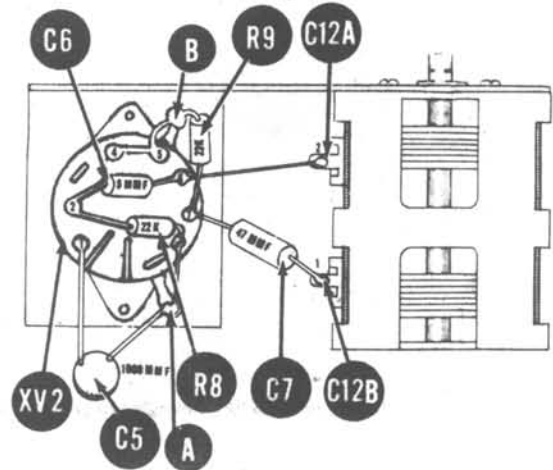

Fig. 4
- ( ) Fig. 4. Connect a 22K $\Omega$  resistor, R8 from XV2-2 (C) to XV2-8 (C).
- ( ) Fig. 4. Connect a short length of bare wire from XV2-8 (S) to ground lug A (C).
- ( ) Fig. 4. Connect a 1000 mmf capacitor C5 from XV2-1 (C) to ground lug A (S).
- ( ) Fig. 4. Connect the 5 mmf capacitor C6 from XV2-2 (S) to XV2-6 (C).
- ( ) Fig. 4. Connect a short length of bare wire from XV2-6 (S) to C12A (C).
- ( ) Fig. 4. Connect a short length of bare wire from XV2-4 (S), thru XV2-5 (S) to ground lug B (C).
- ( ) Fig. 4. Connect the other 22K resistor R9 from ground lug B (S) to XV2-7 (C).
- ( ) Fig. 4. Connect the 47 mmf capacitor C7 from XV2-7 (S) to C12B (C).